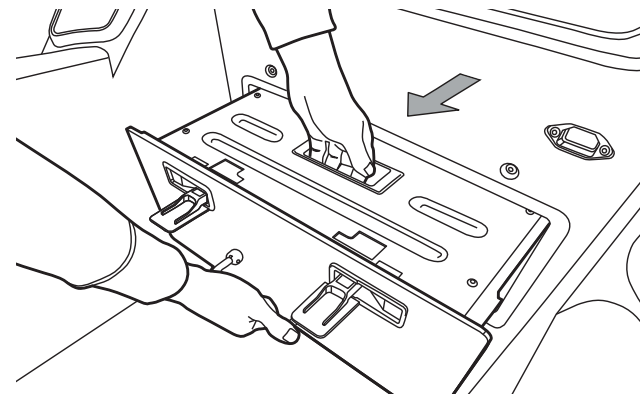

Figure 38: Slide the Battery Module out of the SE-3 Patroller
4. Grasp both the front handle and the top handle of the Battery Module (**Figure 38**). Slide the Battery Module completely out.